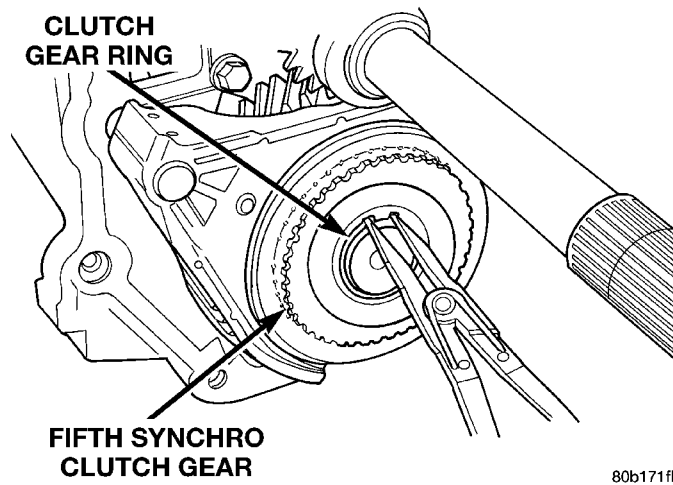

FIGURE 9 - Fifth Gear Clutch Gear Snap Ring
32. Remove the snap ring that secures the fifth gear clutch hub and gear onto the countershaft (Figure 9).
51. Install clutch gear snap ring (Figure 9).